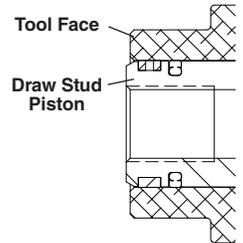

Figure 2 – Punch Head Oil Low
- Oil Leaks. If the draw stud piston extends past the tool face (Figure 2), the oil is low. Have the punch head serviced – do not attempt to add oil.